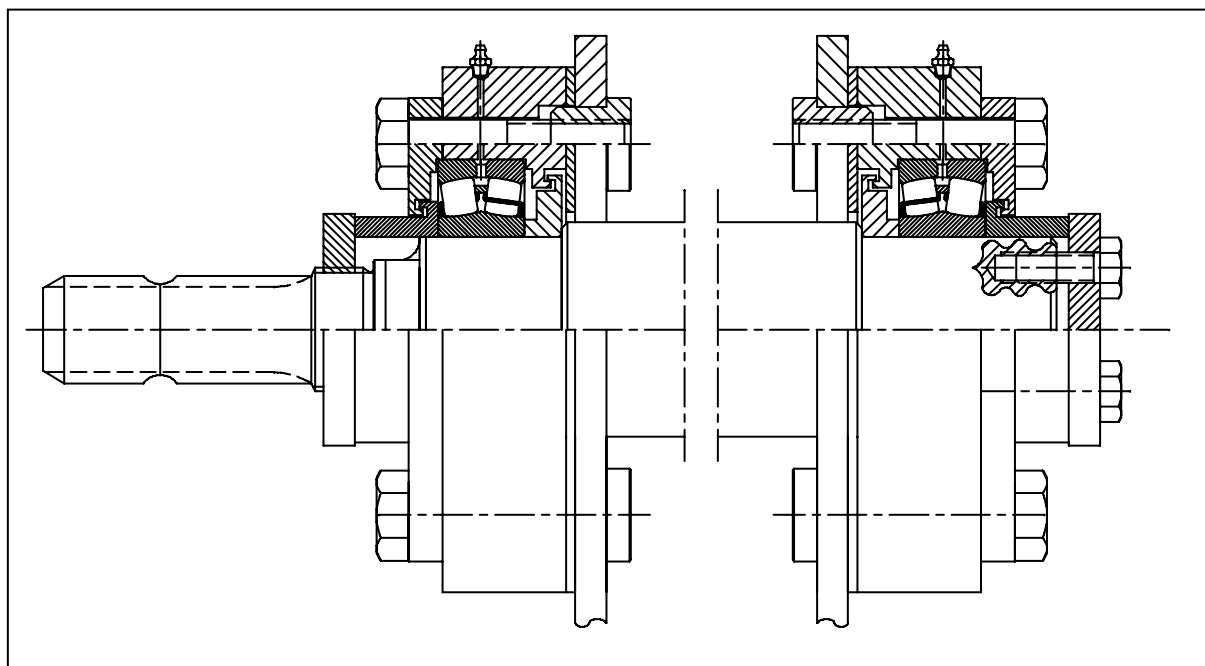

Fig. 32. Cross-sectional view of the bearing system
2. Remove the bearings (Fig 32). Welding damages the bearings.